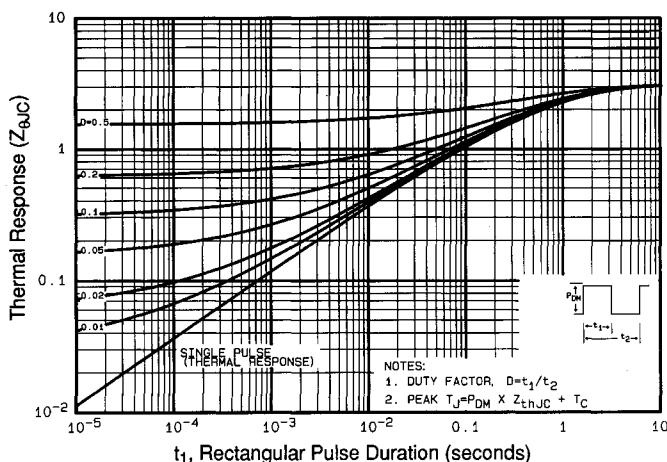

Fig 11. Maximum Effective Transient Thermal Impedance, Junction-to-Case
① Repetitive rating; pulse width limited by max. junction temperature (See Figure 11)
③ $I_{SD}\leq-19\text{A}$, $dI/dt\leq170\text{A}/\mu\text{s}$, $V_{DD}\leq V_{(\text{BR})\text{DSS}}$, $T_J\leq175^\circ\text{C}$
⑤ $t=60\text{s}$, $f=60\text{Hz}$
② $V_{DD}=-25\text{V}$, starting $T_J=25^\circ\text{C}$, $L=7.4\text{mH}$